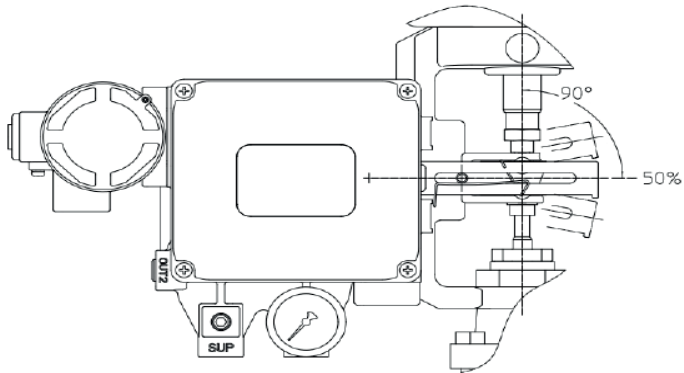

Fig. 9 Feedback lever and valve stem
4. Connect air supply to actuator to position valve to mid travel, see Fig. 9.